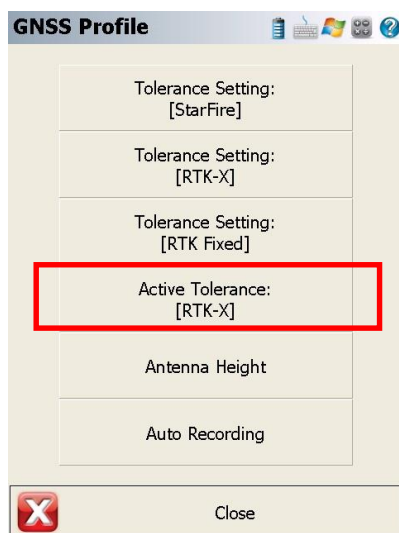

Figure 59: GNSS Profile/Active Tolerance [StarFire]
4. On the **GNSS Profile** dialog (refer to Figure 59), click **Active Tolerance [StarFire]**.